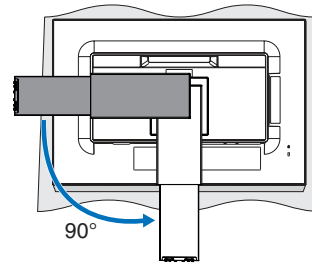

Figure 1
1. Place the monitor face down on a non-abrasive surface (**Figure 1**).
2. Please rotate the stand 90 degrees as shown in **Figure 1**.